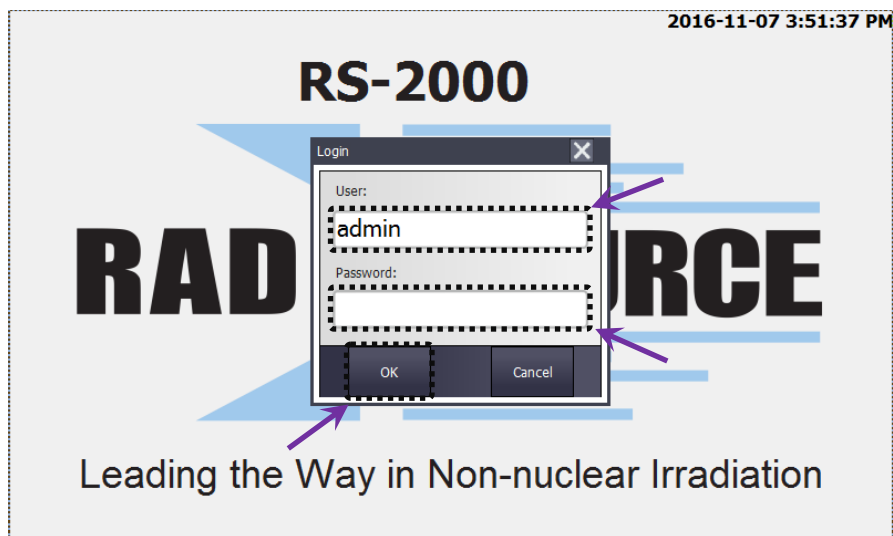

Figure 22: Login Screen
1. Touch the screen to bring up the login. (See Fig. 22.) New Users should sign in using the information given to them by the administrator.